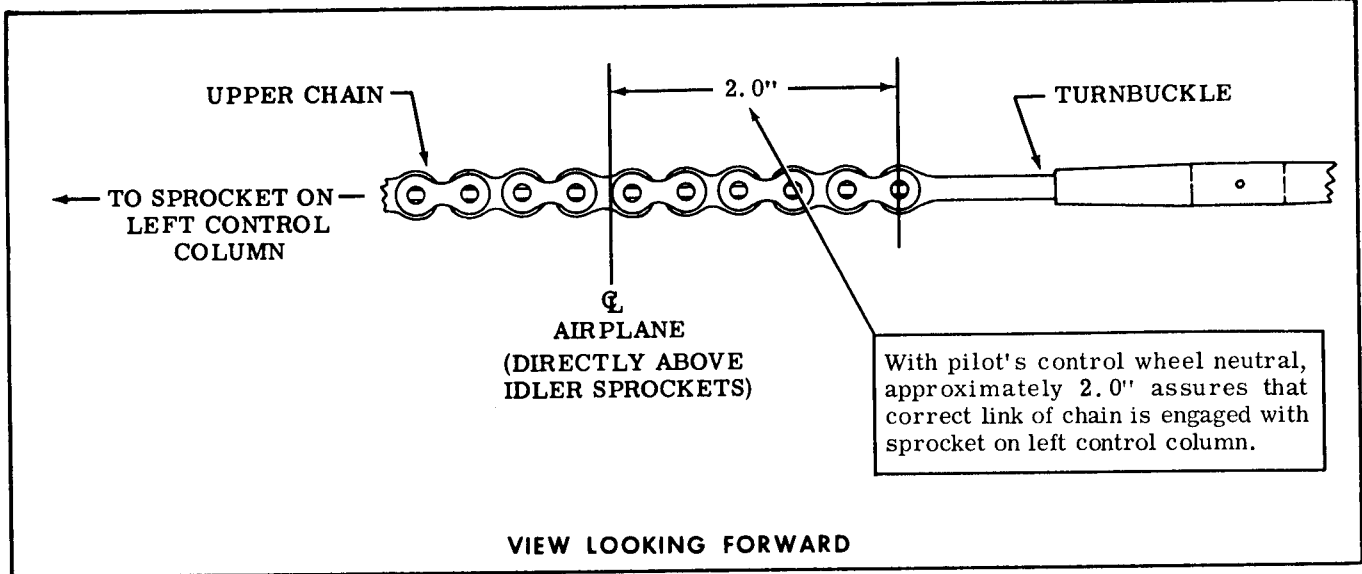

Figure 6-7. Neutral Position for Rigging (182, 1962 & on)
c. (See figure 6-3.) On the control column, check that upper left chain (24) is engaged with left aileron sprocket (22) in accordance with figure 6-7. With the pilot's control wheel in neutral, adjust turnbuckles (25 and 32) so that both control wheels are synchronized in neutral.